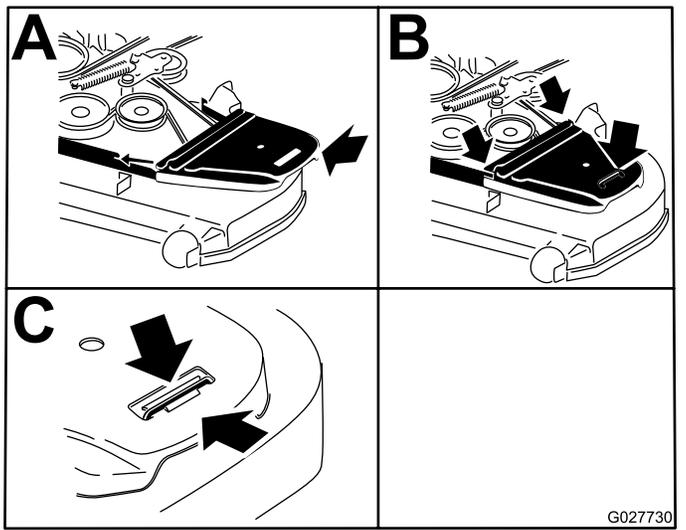

Figure 65
15. Install the belt covers (Figure 65).